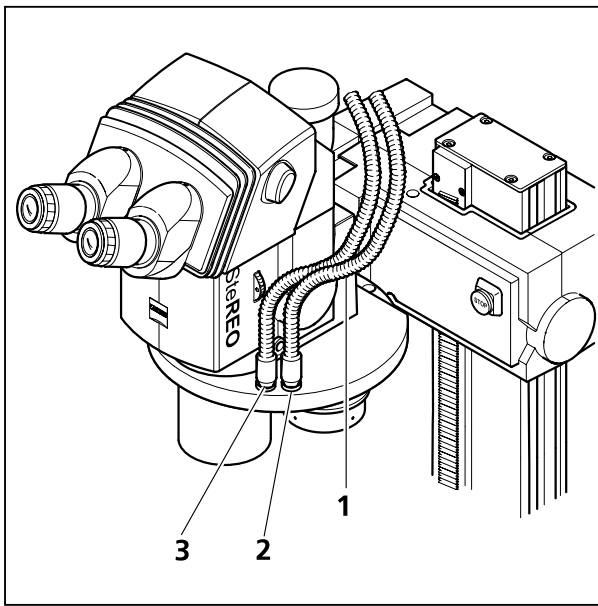

Fig. 32 Light guide mount
- If you use the flexible one-branch light guide, it must be re-positioned when changing from the stereo position (Fig. 32/3) to the macroscope position (Fig. 32/2).
- This is not necessary if you use the flexible two-branch light guide (Fig. 32/1).